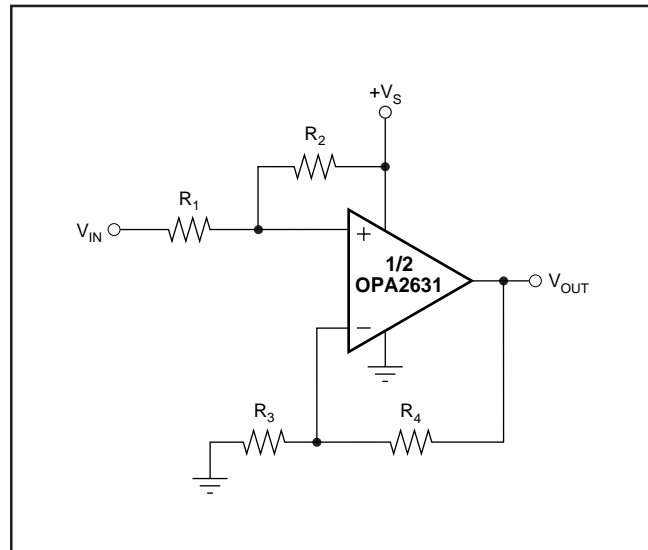

FIGURE 5. DC Level Shifting Circuit.
Figure 5 shows a DC-coupled non-inverting amplifier that level-shifts the input up to accommodate the desired output voltage range. Given the desired signal gain (G), and the amount V_{OUT} needs to be shifted up (ΔV_{OUT}) when V_{IN} is